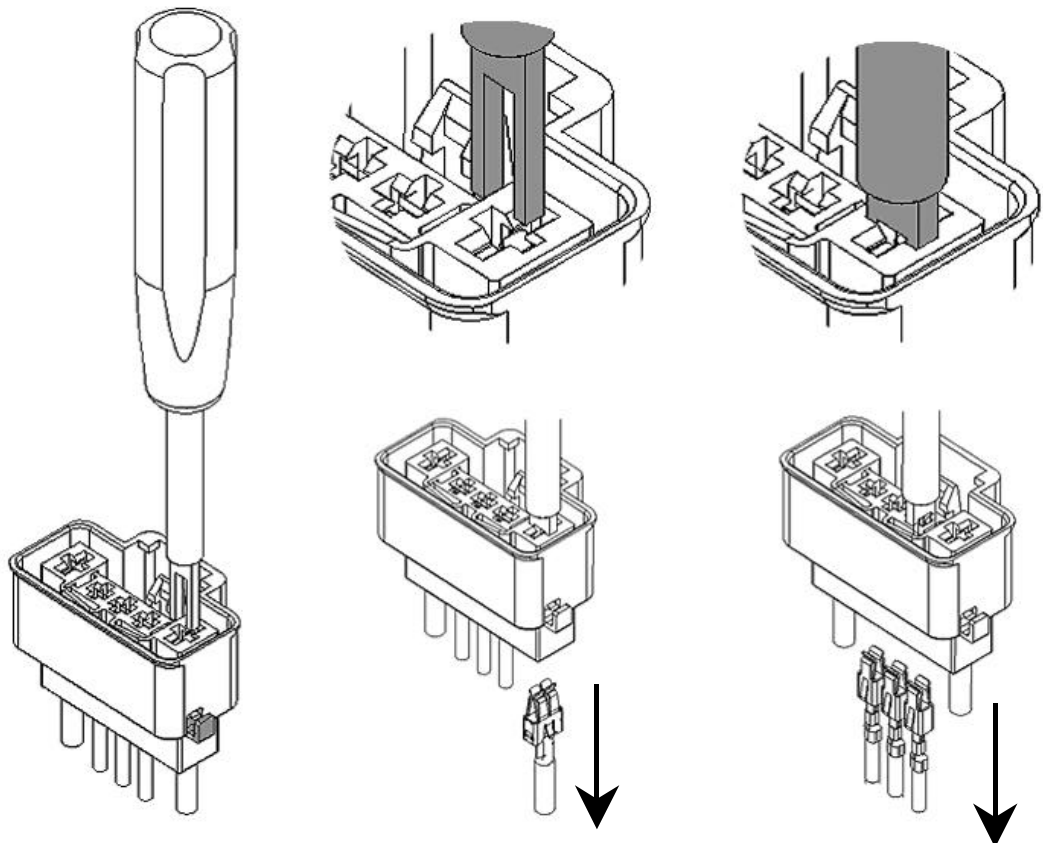

Figure 5
- 5.2 Insert the appropriate tool (PN 968107-1), see figure 5 TO the relevant seats of the cavities, and then pull the contacts in the direction shown by the arrows.